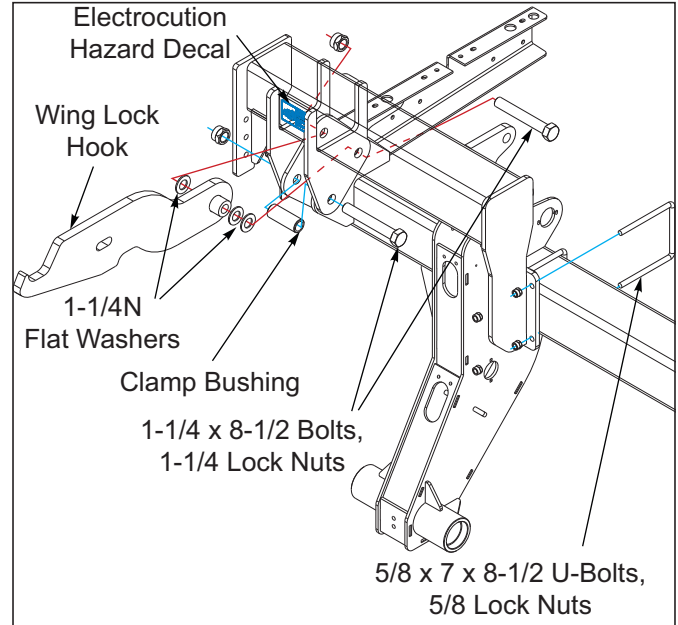
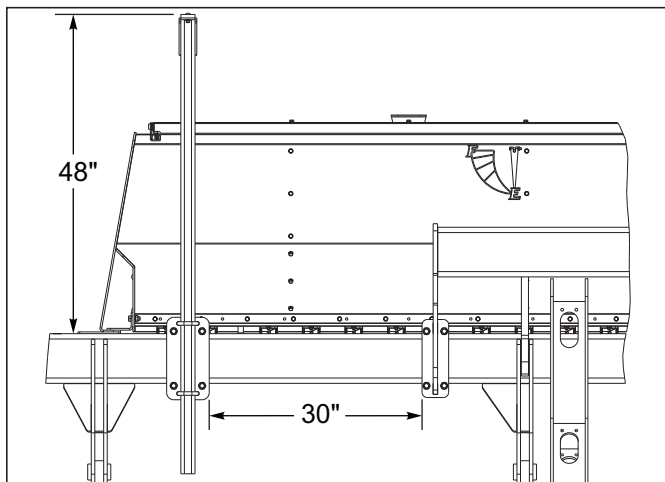
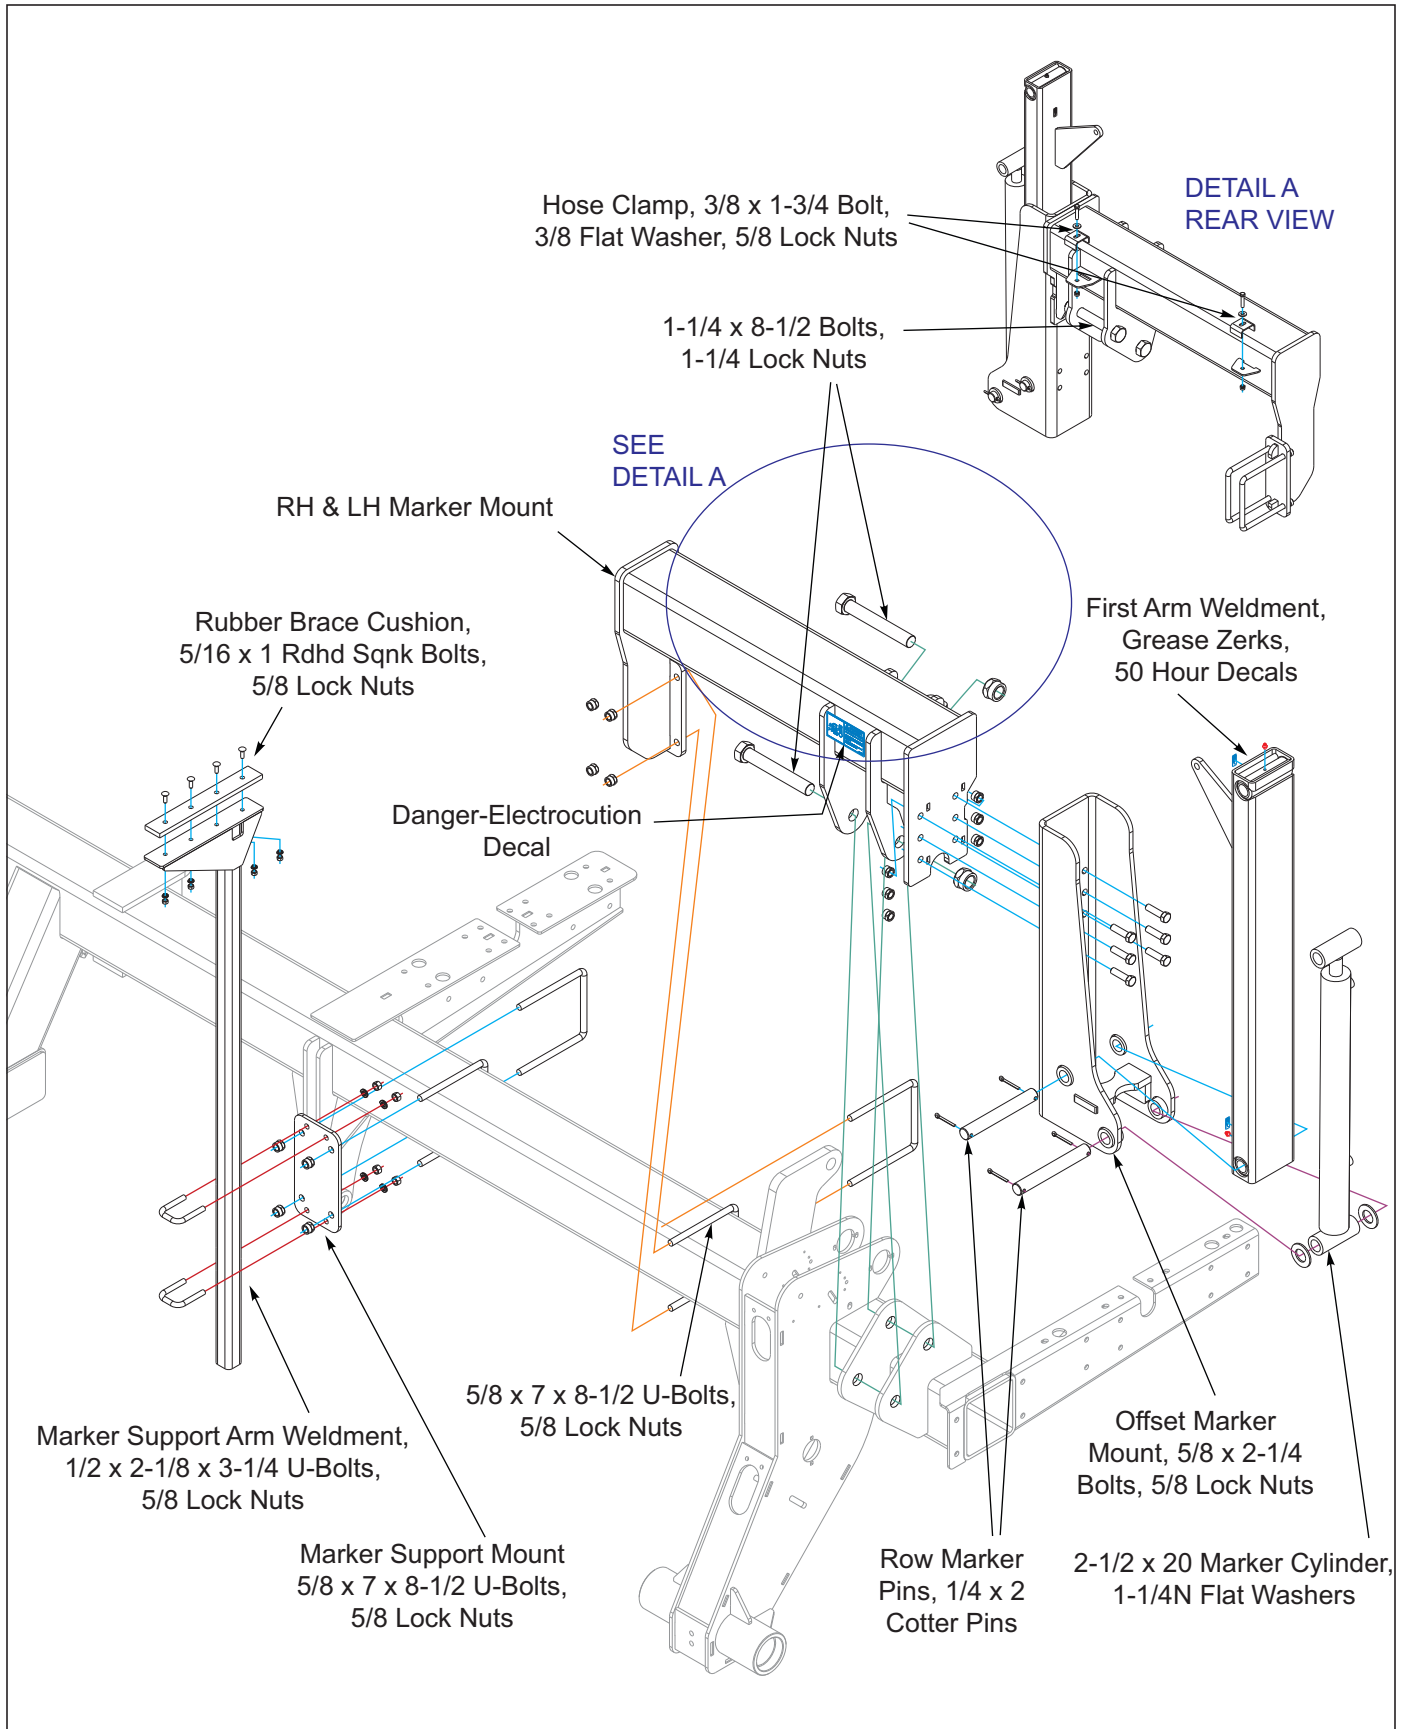

Figure 3-13: Marker Mounts Installation
Figure 3-14: Marker Support Placement 5532-40'
Figure 3-15: Marker Assembly (1 of 2)
14. Remove the wing lock hook and latch and clamp bushings from the outer ends of both wings **See Figure 3-13** and **See Figure 3-15**.
17. Install the first arm weldment to the offset mount using double hole pivot pin and 1/4 x 2 cotter pins. Install grease zerks in each end of the first arm **See Figure 3-15**.
19. Connect the base end of the marker cylinder the fold mount using a welded pin, 1-1/4 flat washers, and 1/4 x 2 cotter pins. Position the fold cylinders so the hydraulic ports face rearward. Connect the rod end of the fold cylinder to the slotted hole of the mid arm using pin washer weldment, 1-1/4 flat washers and 1/4 x 2 cotter pins. Install washers over the outside of the slotted holes **See Figure 3-15**.
29. On 40' drills install the marker support mount to the front of the wing frame, using u-bolts and 5/8 locknuts, approximately 30" from the marker mount **See Figure 3-14** and **See Figure 3-15**. Attach the marker support arm to the front of the mount with u-bolts and 1/2" locknuts. The marker support stand should extend to approximately 48" above the top of the drill frame with the longest offset pointing forward. Install the rubber brace cushion to the top of the marker support stand using 5/16 x rd head sq neck screws, lock washers, and nuts.